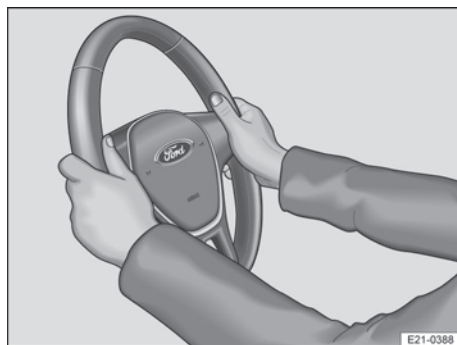

Fig. 58 On the steering wheel: 9 o'clock and 3 o'clock position.
2. Adjust the steering wheel so that you can hold it with both hands at its circumference at the 9 o'clock and 3 o'clock positions with your arms slightly bent → Fig. 58.